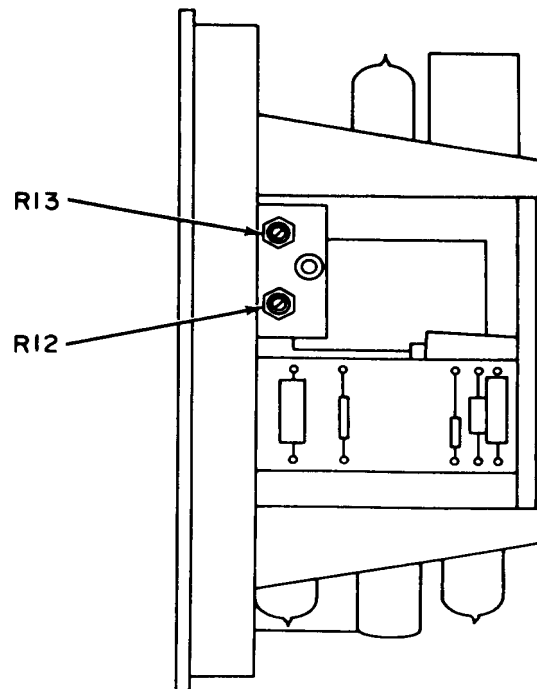

Figure 2. Right-side view of model 420
(2) Adjust R12 (fig. 2) for a 1.000000 V dc indications on differential voltmeter (R).
- (2) Adjust R13 (fig. 2) for a 3.216900 V indication on differential voltmeter (R)